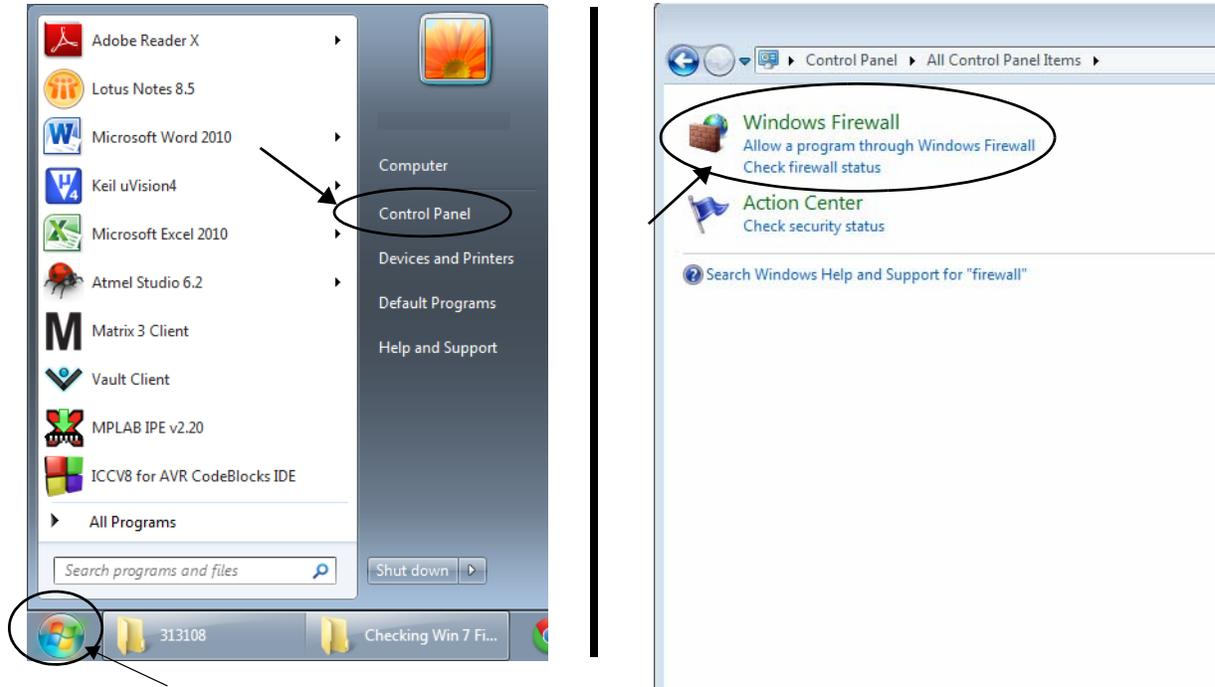

FIG. 38
1. Click on Start button. Then click the control panel. In the search box type Firewall. Then click on the Windows Firewall (FIG. 38).